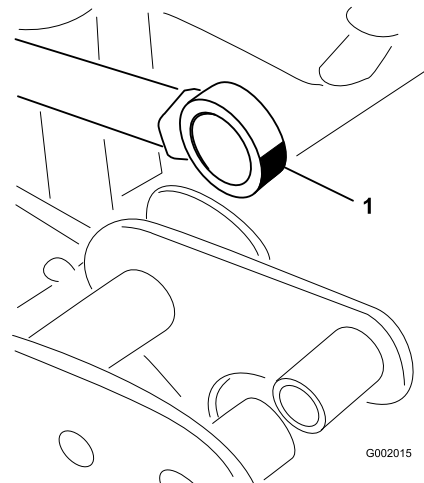

Figure 64
5. Manipulate the actuator-rod-bearing end and apply grease into the bearing (Figure 64).